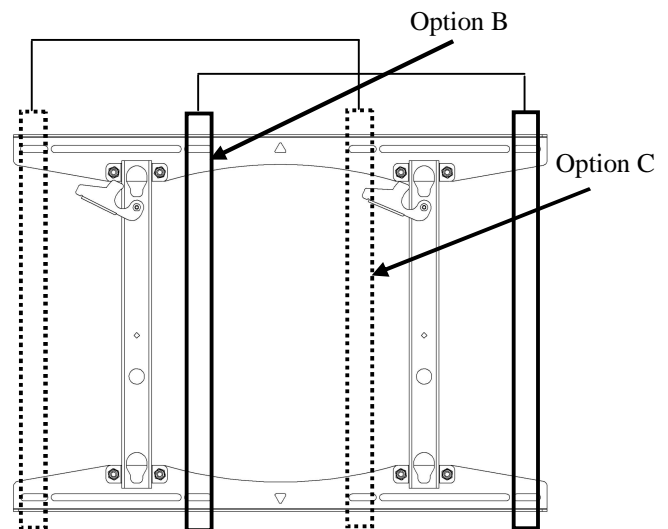

Figure 6. Mounting Holes – 16" Apart on Center (Options B and C)
- **Option B.** Install four 5/16" x 2-1/2" lag bolts (50) and four 5/16" washers (60) (two top and two bottom) into the mounting holes that are *right of center* on dual wood studs 16" apart as shown in Figure 6.
- **Option C.** Install four 5/16" x 2-1/2" lag bolts (50) and four 5/16" washers (60) (two top and two bottom) into the mounting holes that are *left of center* on dual wood studs 16" apart on center as shown in Figure 6.